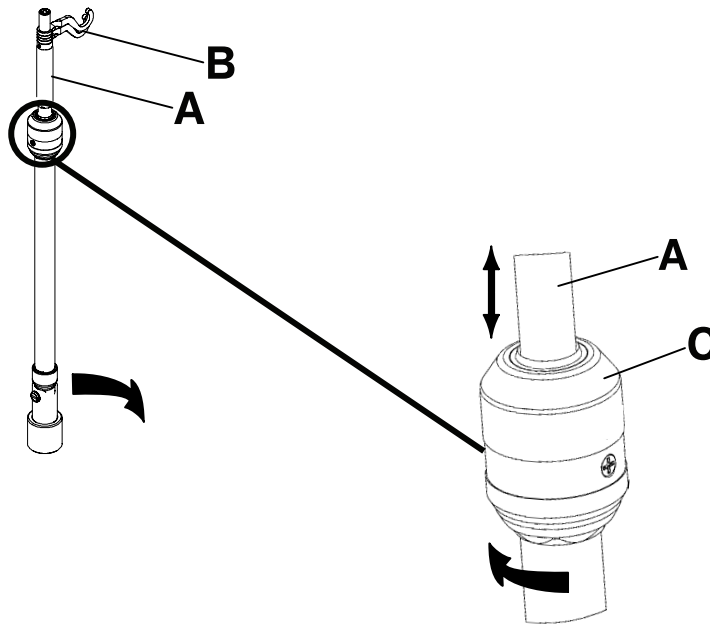

Figure 1-122: Operating the IV pole
3. To raise the height of the pole, pull up on the telescoping portion (A) until it locks into place at its fully raised position (Figure 1-122 on page 1-106).
4. Rotate the IV hangers to the desired position and hang the IV bags (B) (Figure 1-122 on page 1-106).
5. To lower the IV pole, turn the latch (C) until the telescoping portion lowers (Figure 1-122 on page 1-106).